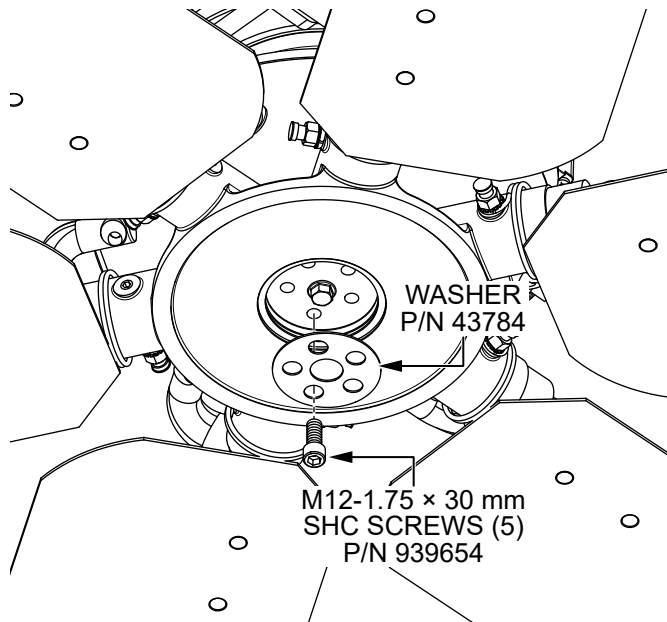

Figure 9. Install New Screws and Washer
6. Install the five new M12-1.75 × 30 mm SHC screws (P/N 939654) with one washer (P/N 43784) as shown in Figure 9. Torque the screws in a star pattern to 40 lbf·ft.